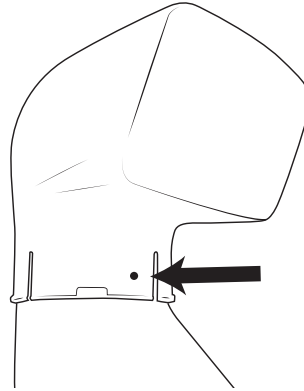

Figure 22
3. Mark the hole location on the Intake body and drill a 5/16" hole (Fig 22).